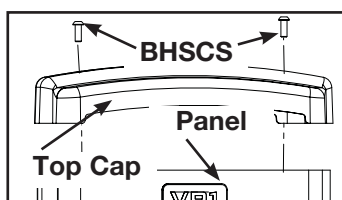

Figure 2
- A. Using a 7/32" Allen wrench, remove the two Button Head Socket Cap Screws (BHSCS) and top cap and set aside. See Figure 2.